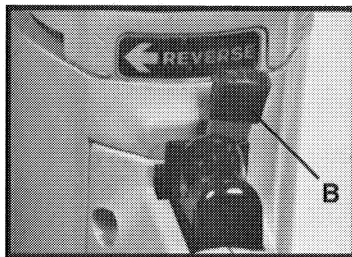

Fig. 3
Your drill will operate in either the forward direction (clockwise rotation) for dilling holes, or the reverse direction (counterclockwise rotation) for releasing jammed drill bits. For counterclockwise rotation move the reversing switch lever (B) Fig. 3, in the direction indicated by the arrow next to the word "reverse", or in the opposite direction for clockwise rotation.